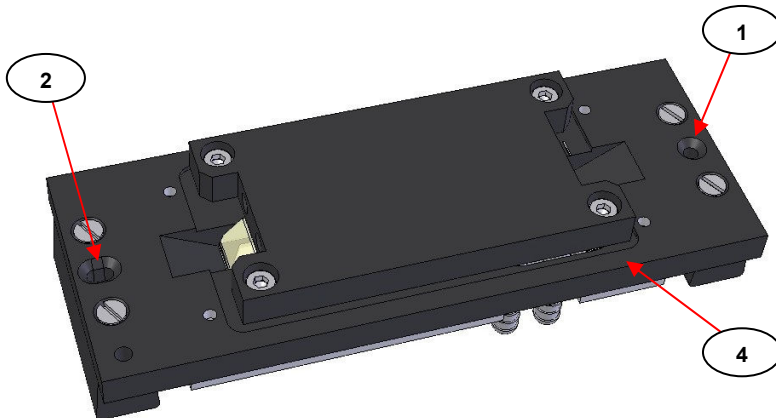
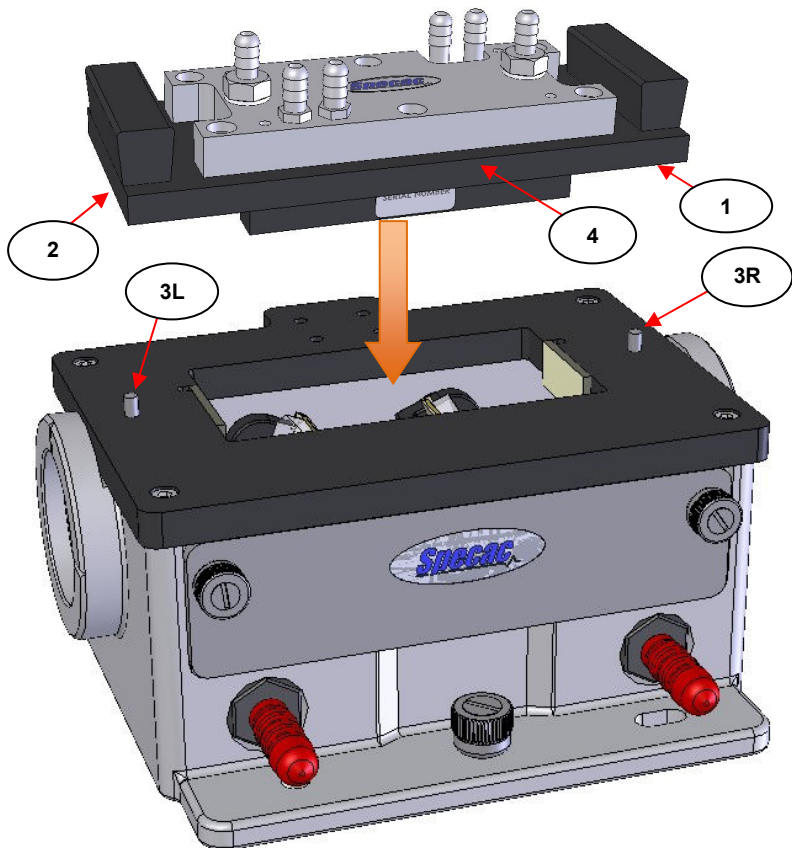

Fig 2. Round and Slot Location Holes on Underside of Gateway™ ATR Flow Through Top Plate
Fig 3. Fitting of Gateway™ ATR Thermostabilised Flow Through Top Plate to the Gateway™ Optical Unit
The Gateway™ ATR Thermostabilised Flow Through Top Plate fits onto the top of the Gateway optical unit via alignment of the round hole (1) and slot hole (2) on the underside of the Top Plate over the two fixing location pins (3) on the optical unit. (See Fig 2 and Fig 3.)